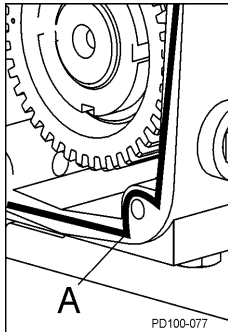

Figure 220 Sealant Placement
3. Apply silicone sealant to the back of the gear case. (Gore-Tex® sealing tape can be used on silicone-free models.) Place tape on the inside of the screw holes. (Figure 220, item A).